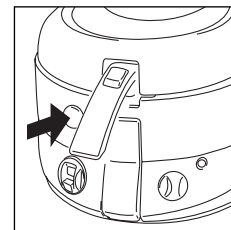

fig. 2
- Open lid by pressing the lid release button (fig.2).